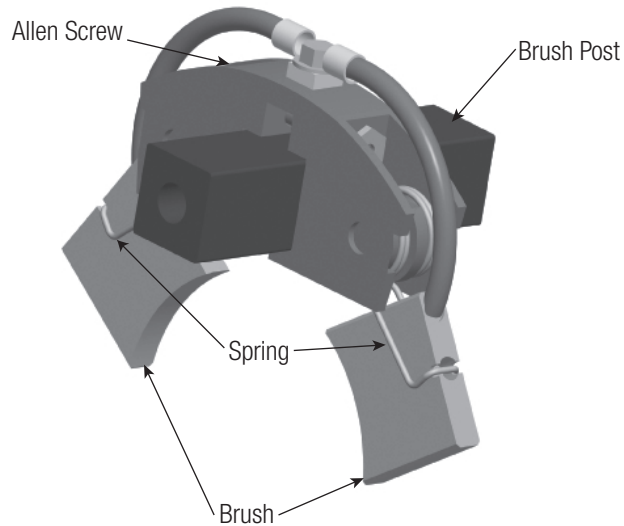

Figure: 4-1
- a. Style with the spring on the top of the brush **See Figure: 4-1:** If the distance from the top of the insulator to the lower part of the brush spring is 0.93" or less, replace the brush.
4.3.3 To remove and replace brush on square post mounting brush holder **See Figure: 4-1:**
4.3.4 To remove and replace brush holder assembly on square post **See Figure: 4-1**: